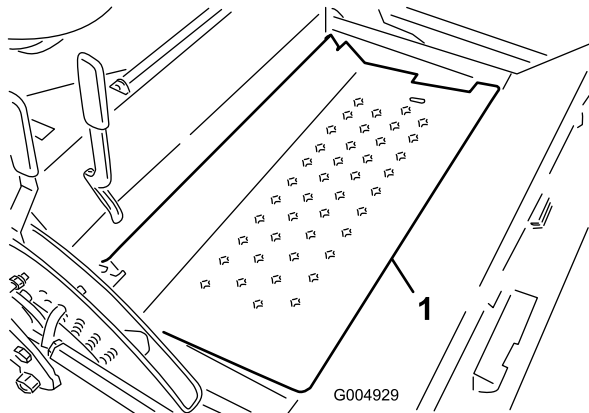

Figure 9
6. Pivot open the floor plate (Figure 9).